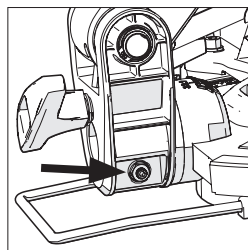

Fig. 11
- Use the Hex key to adjust the adjustment screw in or out as required (**Fig. 11**).